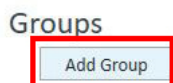

Figure 14. Add groups
- 1 Click Add Group to create Group 1. (See Figure 14.)